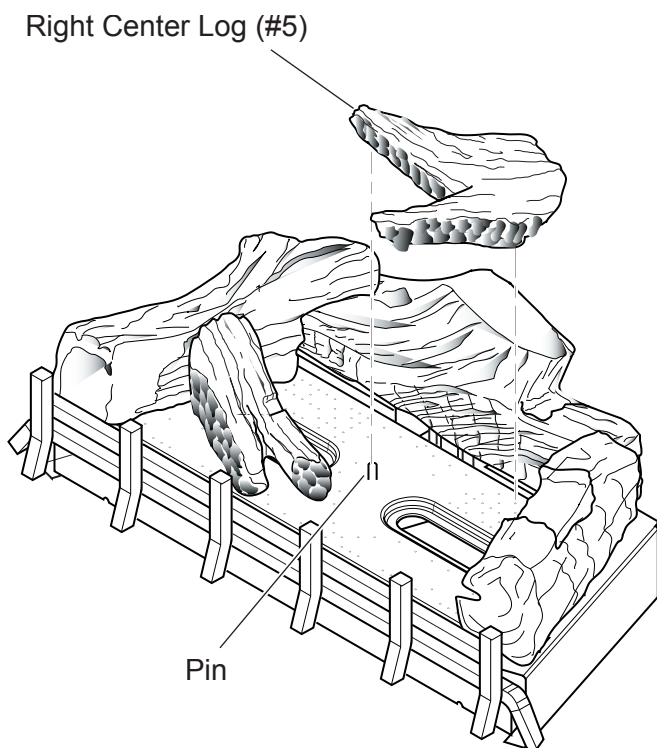

Figure 22 - Installing Right Center Log #5
7. Set right center log (#5) on center pin to the left of right base log. See *Figure 22*.